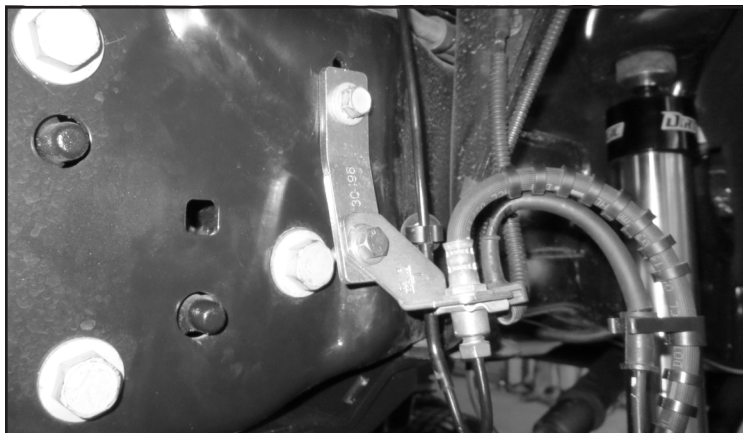

FIGURE 7 - STEP 9
9. Install FT30496 (Brake line bracket) to the factory brake line bracket using the supplied 5/16" hardware. Then, install the new bracket to the original mounting hole using the factory bolt. Torque to 25 ft-lbs. **SEE FIGURE 7**